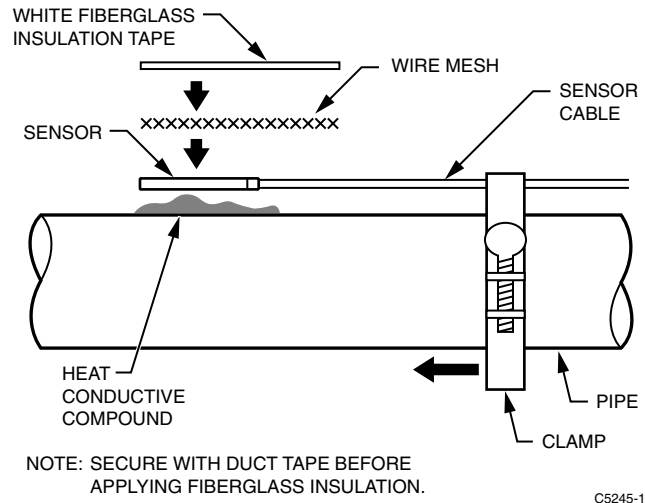

Fig. 2. Mounting Sensor on Uninsulated Pipe
1. Using the heat conductive compound from the 14503800 Installation Kit, coat the Sensor mounting location on the pipe (Fig. 2).